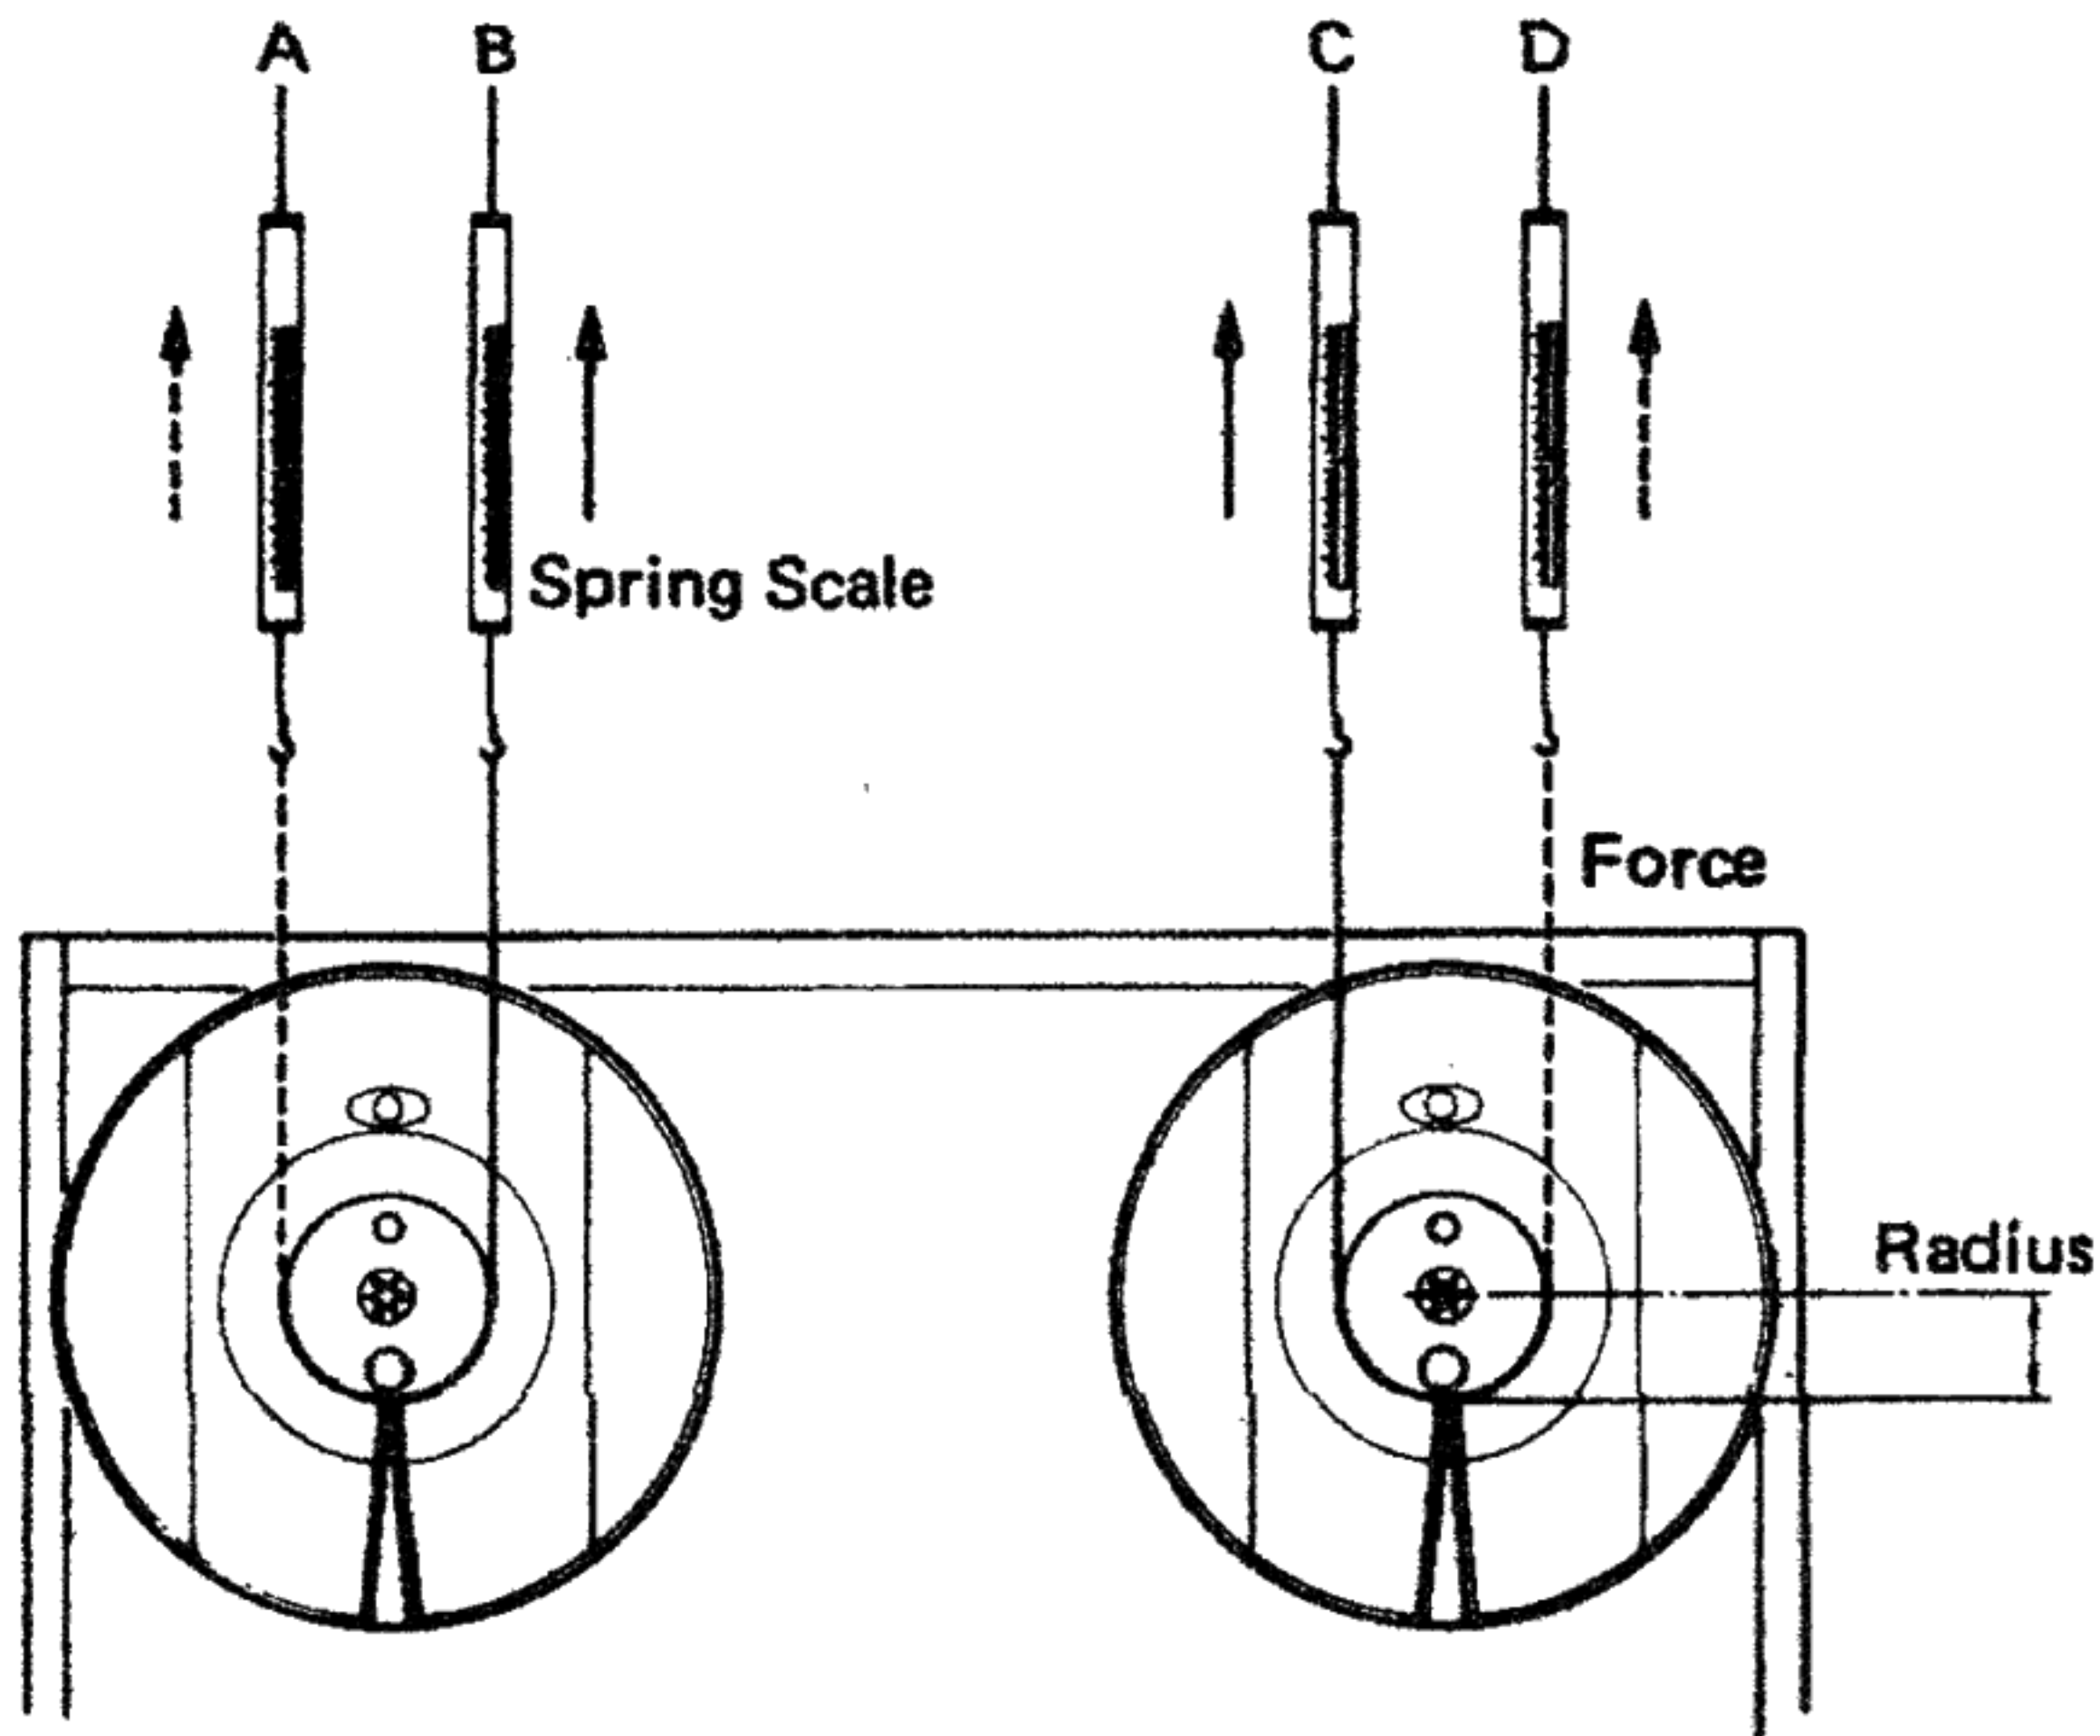

Fig. 4-4
1. Mount an empty 7" reel onto either reel table and attach a spring scale to the reel with a string. See Fig. 4-4.
3. Follow steps 1 and 2 for each measuring condition; i.e., (A) through (D) in Fig. 4-4.